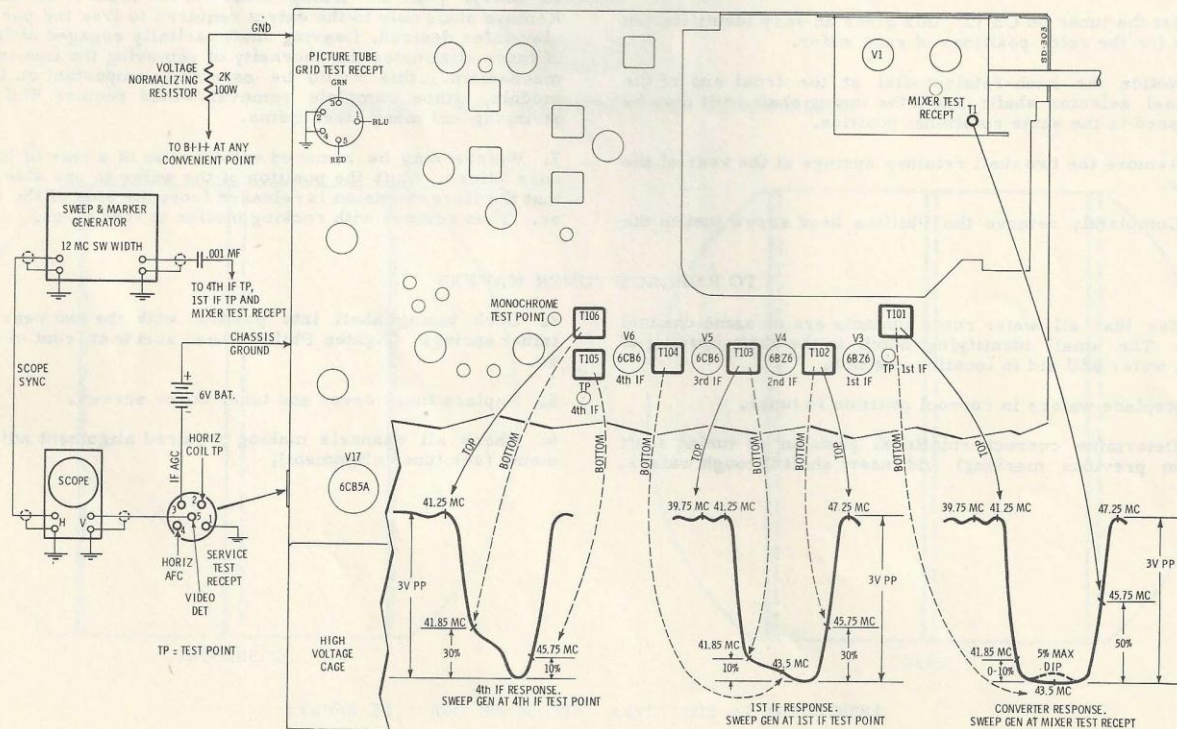

FIGURE 23. VIDEO IF AND MIXER ALIGNMENT DETAIL
- C. Connect negative lead of a six (6) volt bias battery to pin #3 of the SERVICE TEST RECEPTACLE: Positive lead to ground (pin #1).
G. Refer to Video IF Alignment Detail (Figure 23) for the following procedure.